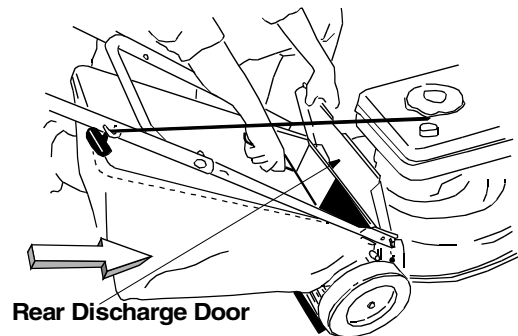

Figure 13
- Place the hooks of the grass catcher into the slots in the handle bracket assemblies on both sides. See Figure 13 . Release the rear discharge door.